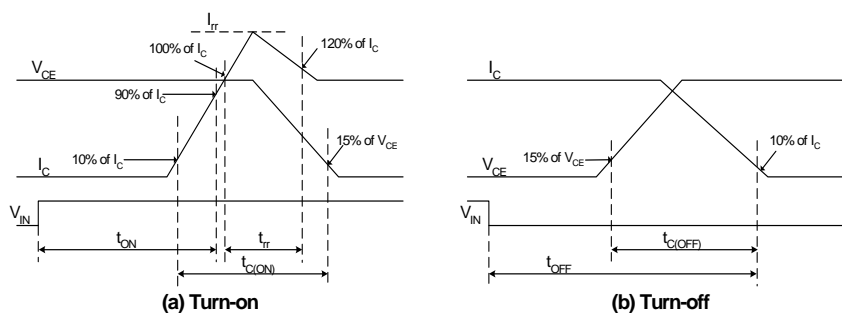

Fig. 4. Switching Time Definition
1. tON and tOFF include the propagation delay time of the internal drive IC. tC(ON) and tC(OFF) are the switching time of IGBT itself under the given gate driving condition internally. For the detailed information, please see Fig. 4